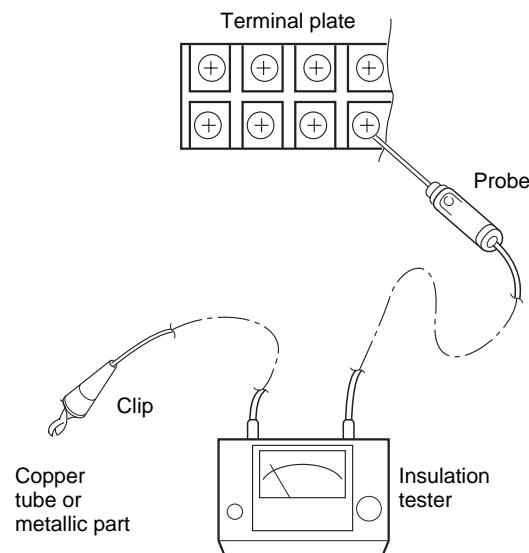

Fig. IV-15
Clamp an aluminum plate fin or copper tube with the lead clip of the insulation resistance tester and measure the resistance by placing a probe on the terminal plate (Fig. IV-15)
③ Outdoor Unit
Measure the resistance by placing a probe on the terminal plate in the same manner as explained above ②. (Fig. IV-15)